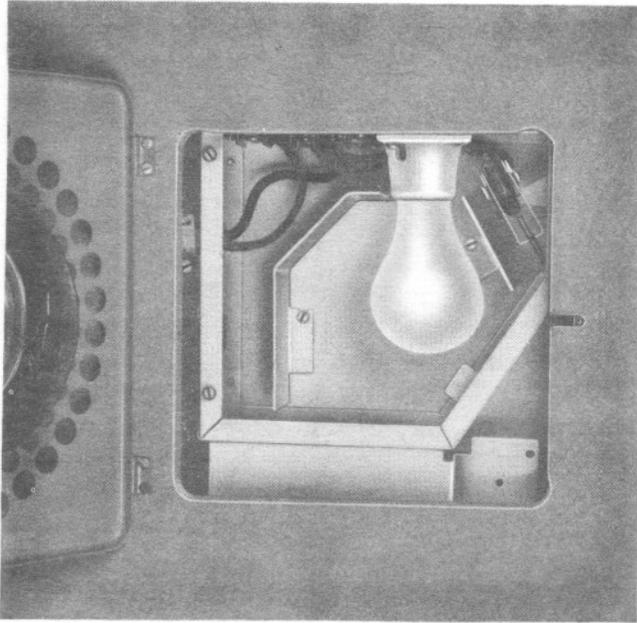

Fig. 9 — 4A Light Fixture
8.07 The 4A light fixture is intended for use in the 9-, 10-, and 11-type booths and also serves as a junction point for supplying power to a blower, directory light, telephone sign, and adjacent booths (see Fig. 9).